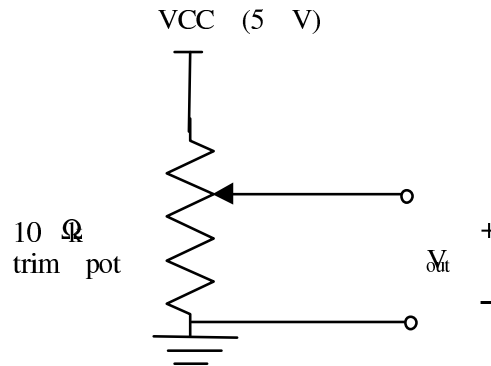

FIGURE 1. Reference voltage source is supplied by a potentiometer
3.1. What is the reference voltage? The reference voltage is a voltage that you want your ADC to convert into a binary number. You can generate the reference voltage using a potentiometer. In particular, you would tie the top end terminal of the potentiometer to a high voltage level and the bottom end-terminal to ground. The reference voltage is then the voltage between the wiper and ground as shown in figure 1